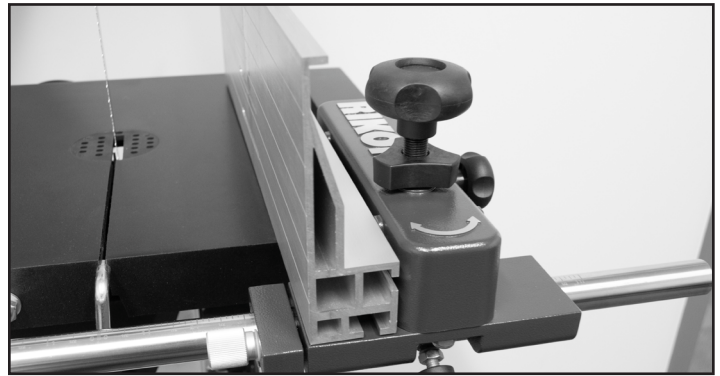

FIGURE 38
4. Once in place, retighten the side handle to secure the fence in position on the carrier. Fig. 38.